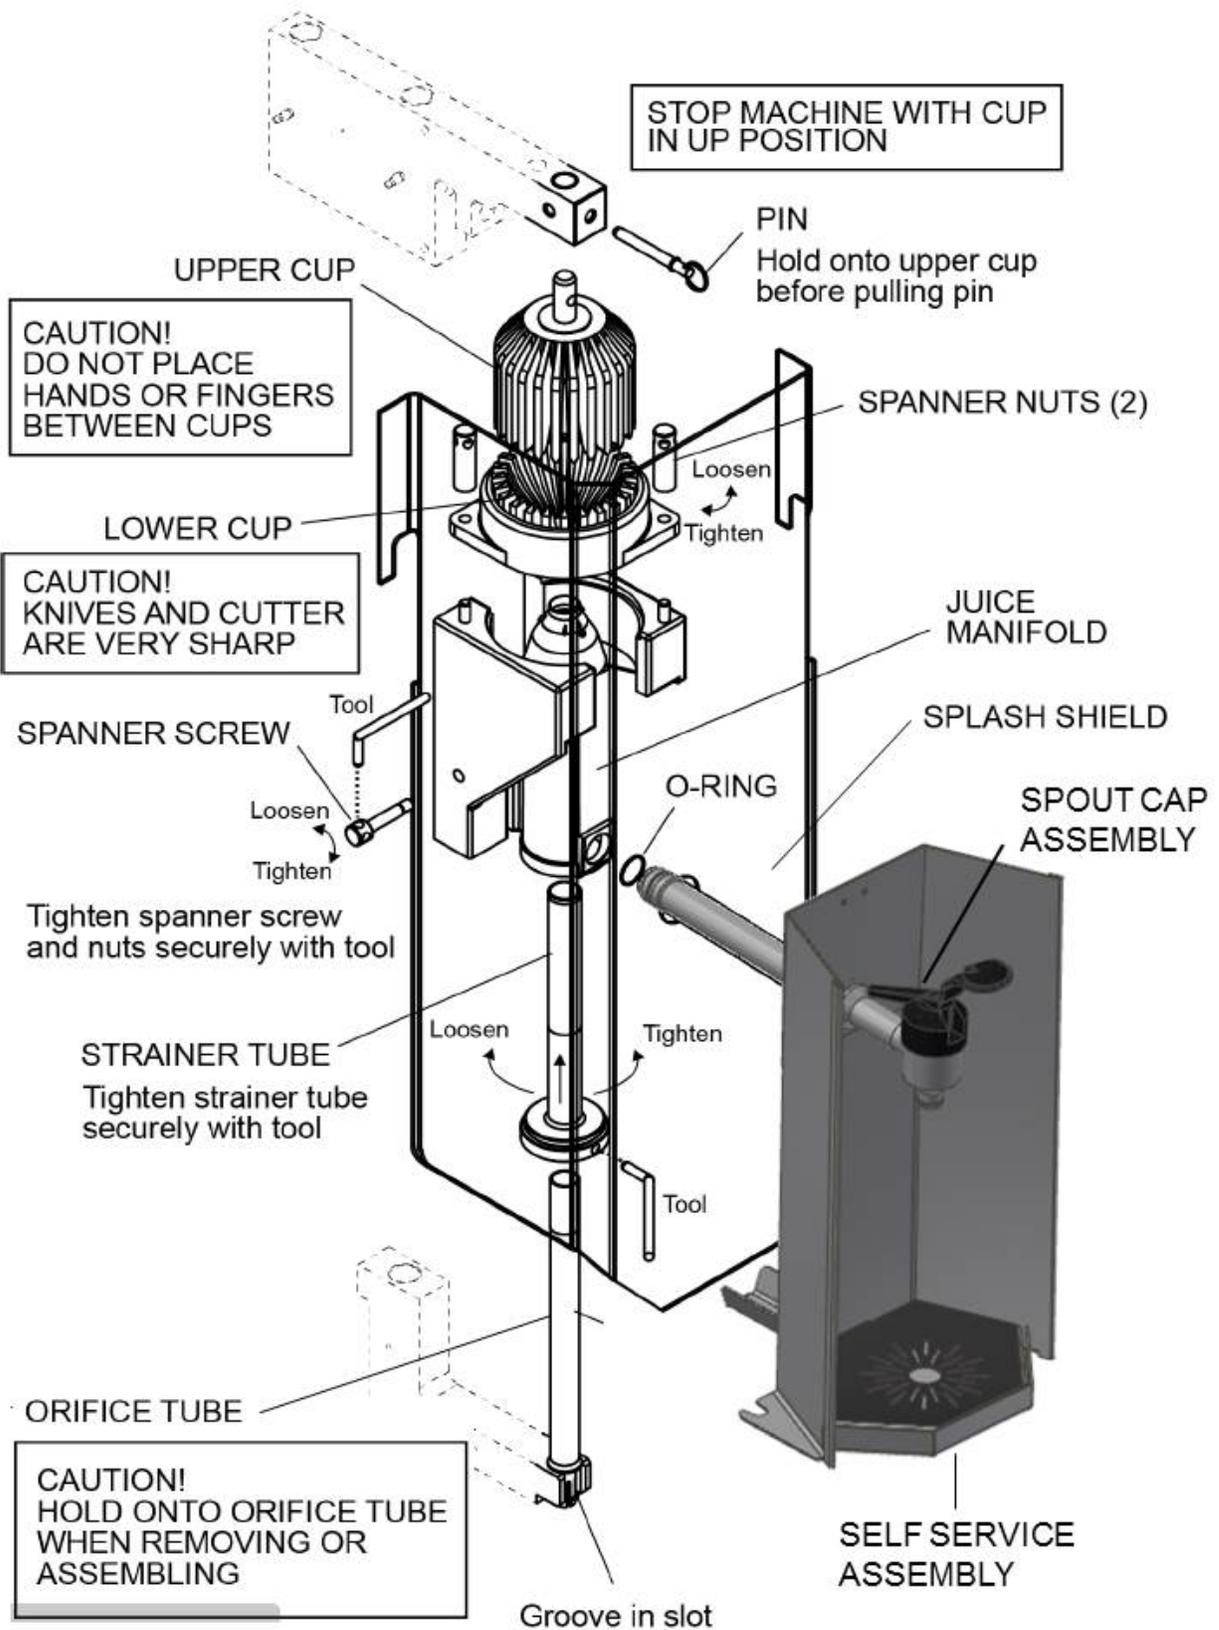

Figure 1. Removing/Replacing Self-Service Juicing Components
6. Remove juicing components (see Figure 1).
Refer to Figure 1.